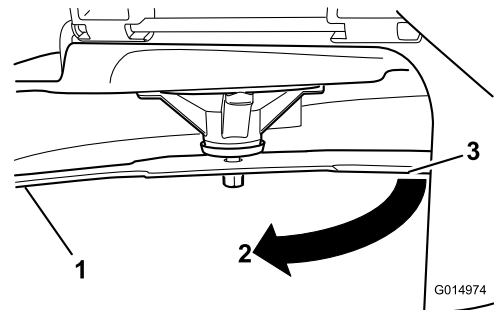

Figure 45
4. Rotate the same blade 180 degrees so that the opposing cutting edge is now in the same position (Figure 45).